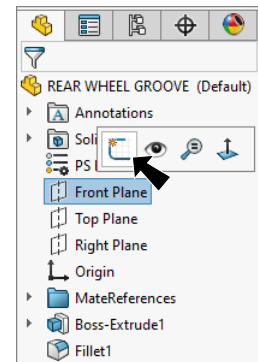

Fig. 19
Step 1. Click **Front Plane**  in the Feature Manager and click **Sketch**  on the context toolbar, **Fig. 19**.